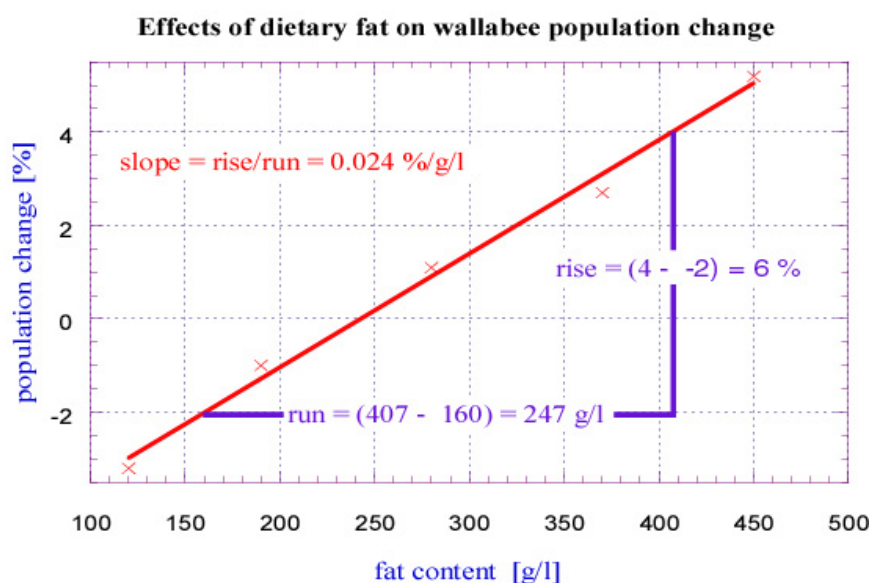

FIG. 3: How to find the slope of a straight line
2. *Determine the slope.* The slope of a straight line is defined as the ratio of the rise—or change along the ordinate axis—to the run—change along the abscissa—for any segment of the line. The larger a segment of your line you use, the more accurate will be your determination of the slope. Remember that the units of the rise and run are the same as the units used on the ordinate and abscissa axes, respectively. Figure 3 shows a best straight line through the wallabee population data, along with a calculation of the slope.